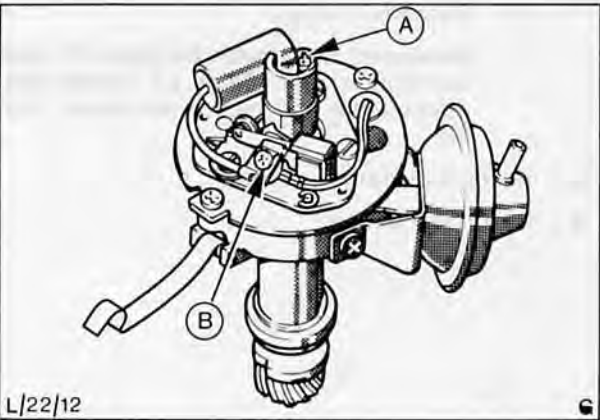

Fig. 57. Motorcraft condenser removal
4. Loosen condenser lead retaining screw and disconnect lead. Remove retaining screw and detach condenser, Fig. 57.